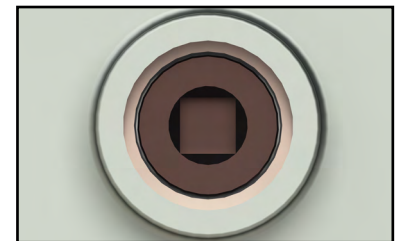

Fig.29
3. Insert the 3/8" drive into the port (Fig. 29).